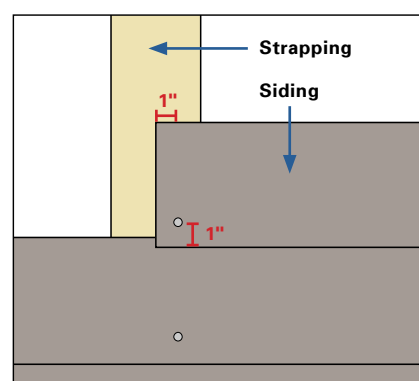

Fig. 15
- Siding must be nailed 1" from the end of the board to prevent splitting. (See Figure 15)